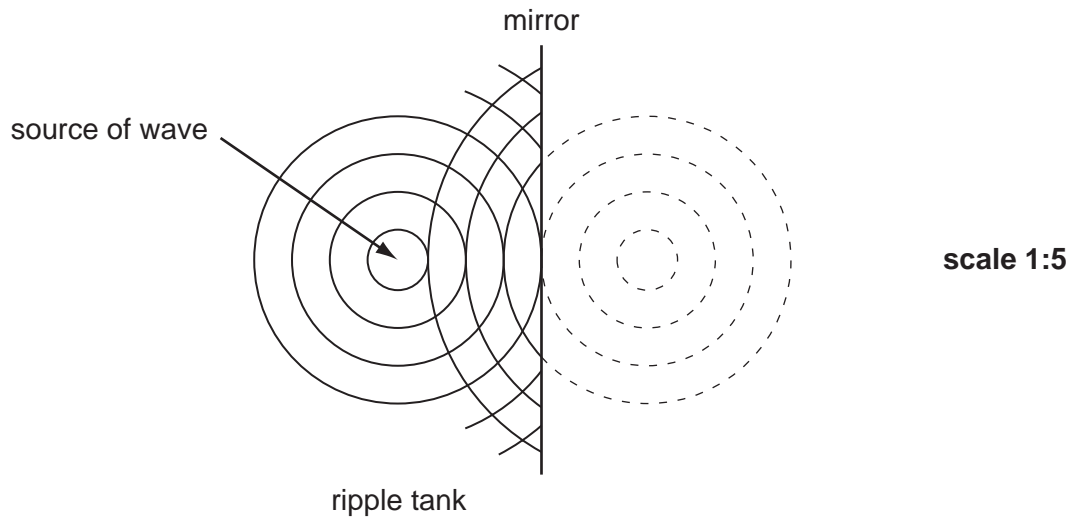

Fig. 3.1
- 3 (a) Fig. 3.1 shows one wave property demonstrated by water waves in a ripple tank. The figure is drawn $1/5^{\text{th}}$ full size and the frequency of the waves is 2 Hz.
- (ii) Use Fig. 3.1 to calculate the wavelength of the wave **in the ripple tank**.